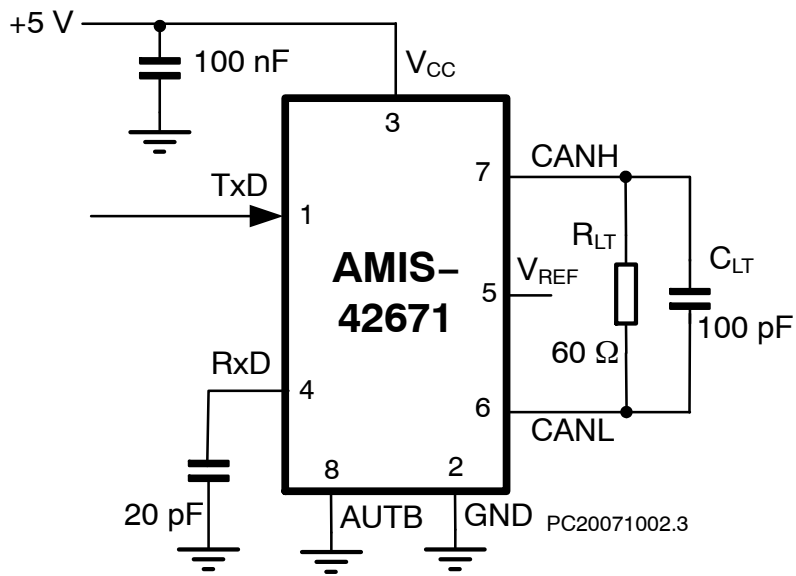

Figure 6. Test Circuit for Timing Characteristics
**TIMING CHARACTERISTICS** (see Figures 6 and 7)